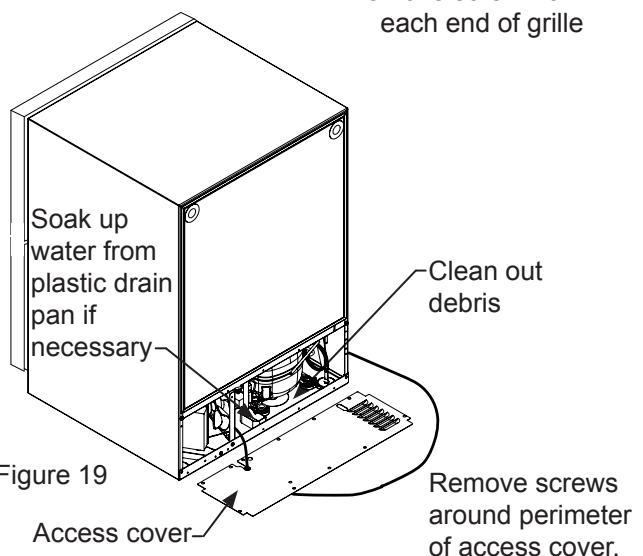

Figure 19
10. Remove the rear access cover, (see Figure 19), and use a brush and vacuum to clean dirt and debris from the machine compartment.